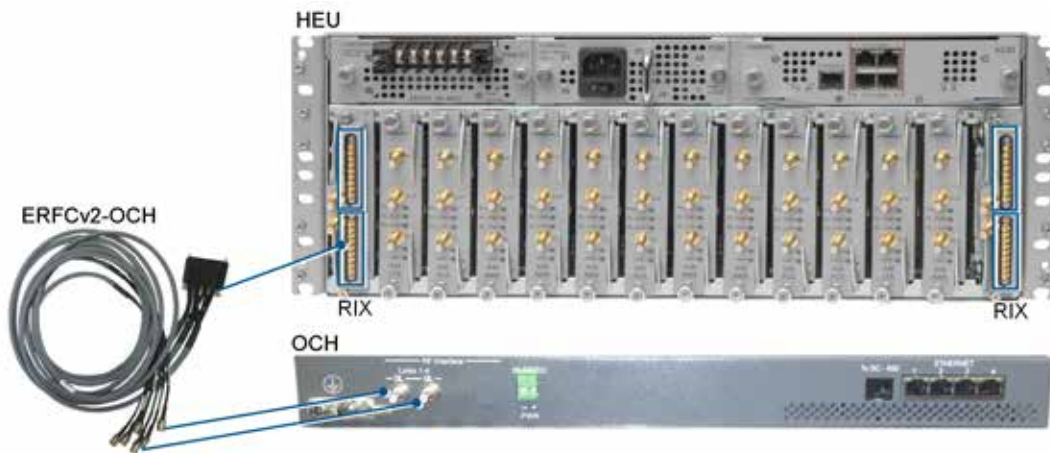

Figure 2. HEU-to-OCH Connections via ERFCv2 Cable
**Step 1:** Refer to Figure 2 and connect the HEU to the OCH using the ERFCv2-OCH cable as follows: